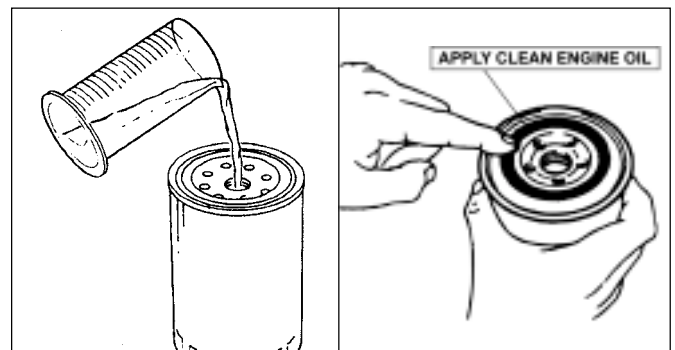

FIGURE 4.24C
6. To install the oil filter, apply a thin coat of engine oil to the gasket of the new oil filter, fill filter with engine oil and then secure the filter by tightening 3/4 ~ 1 complete turn (by hand) after the gasket comes in contact with the oil filter head. See Figure 4.24C. {The amount of oil to be added into the filter is approx. 1.1 Lit (0.29 GAL)}